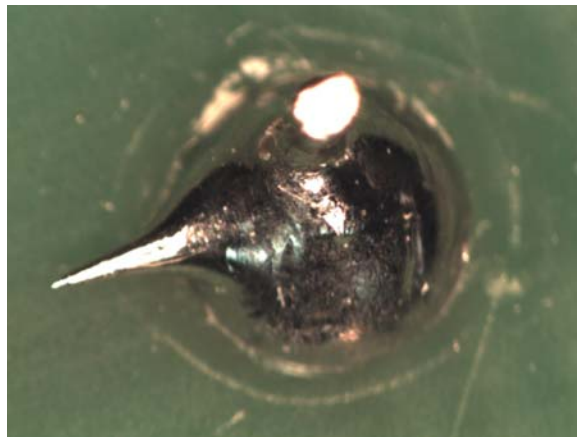

Figure 5 – Solder Spikes
- Solder spikes and icicles: Solder spikes have been reported as the most common soldering defect. They are the result of several sources. Poor soldering iron technique can draw spikes of solder by allowing the joint to partially solidify before the tip is removed. Insufficient heating also causes solder spikes. Insufficient heating can be difficult for even a skilled operator to overcome. Many of the more inexpensive irons available have poor iron temperature control. Smaller joints often require a smaller tip that conducts less heat. The issue of flux consumption also produces solder spikes. Solder reoxidizes when heated and insufficient fluxing action results in an oxide shell that increases the probability of a solder spike. Solder spikes are vulnerable to touching other electrical components and breaking loose to fall onto the product (Figure 5).